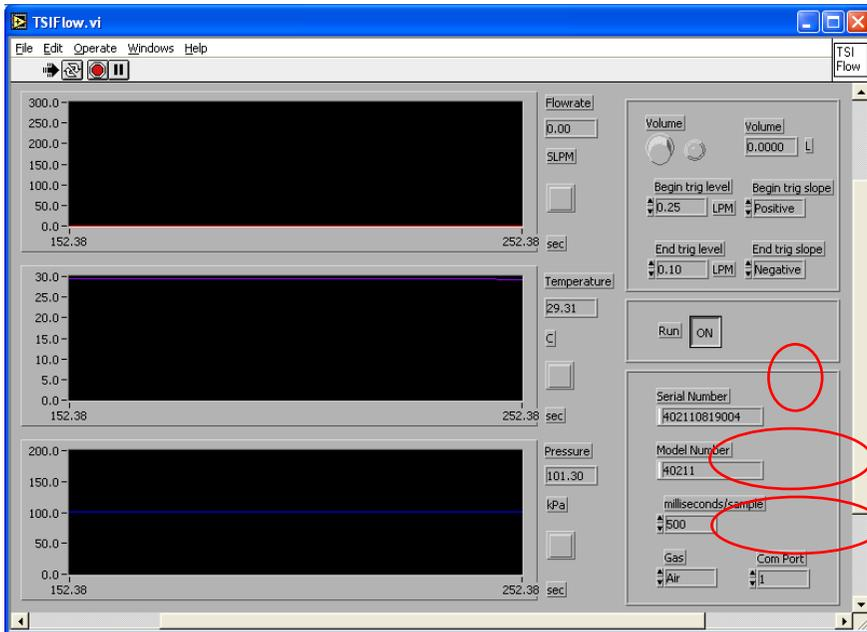

Figure 45: TSI Flow Adjustment Screen 2
13. Click on "OFF" button in order to enable the Run command. The software will integrate the Airflow Meter and display the model and serial number in both the Machine and HP counters are progressing in 1 at each pulse he designated rubrics. (Figure 45)